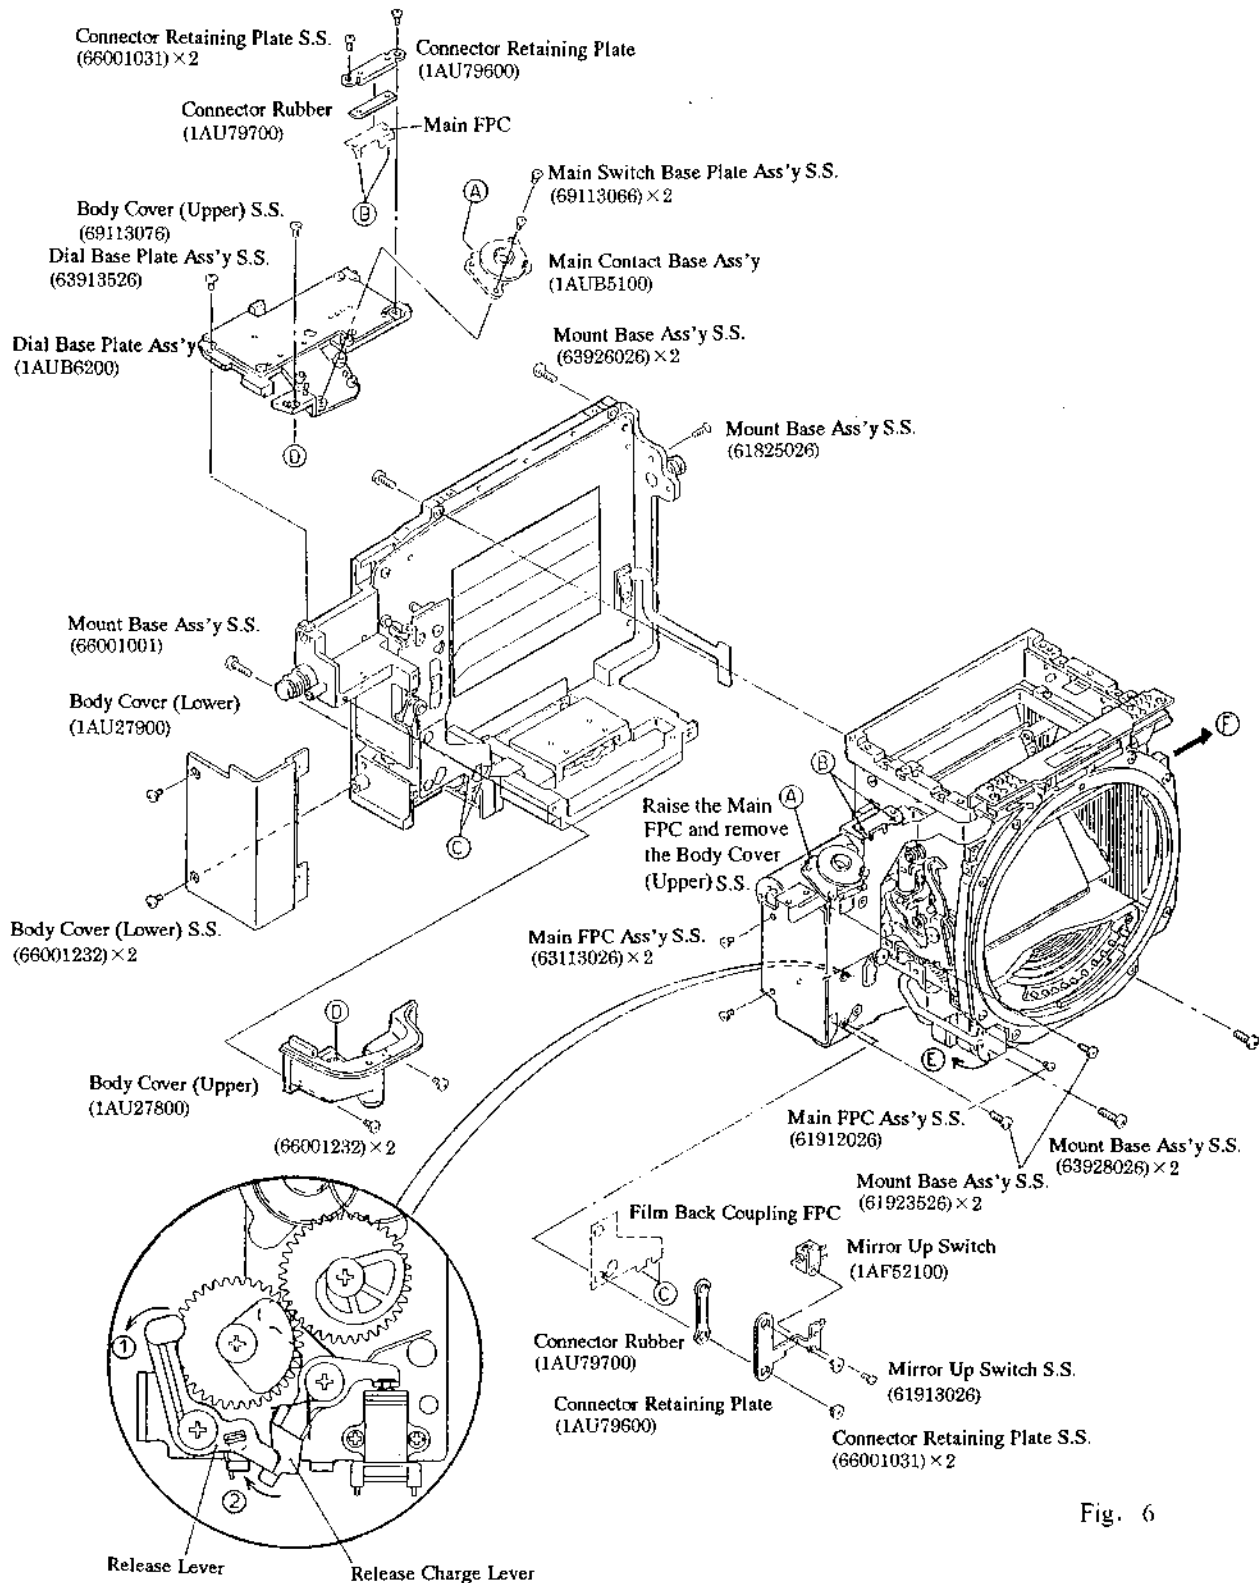

Fig. 6
(See Fig. 6)
(Front Left of Camera Body) (See Figs. 6 and 7)
- a) Move the Release Lever of the Charge Base Plate Ass'y in the direction of the arrow ㊦ and move the Release Charge Lever in the direction of the arrow ㊧ so that the Release Lever is hooked on the Release Charge Lever. Then install the Mount Base Ass'y on the Camera Body. (See Fig. 6)
- c) After setting the Mount Base Ass'y on the Camera Body, push the Mount Base Ass'y as far to the right as possible (in the direction of the arrow ㊦). (See Fig. 6).